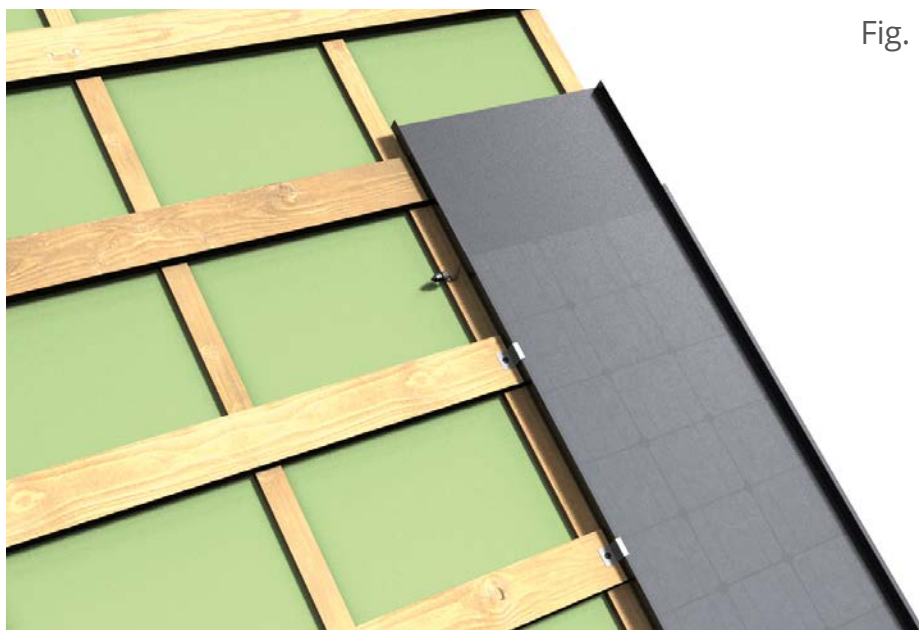

Fig. 8
3.6 After placing the bottom part on the rain gutter, **higher lock (right side) of the first column will be fastened by using fastening clamps to the battens.** The clamps will be laid in approximately every 400 mm (Fig. 8).
3.7 Left side of the first column and upcoming Roofit.solar or regular metal panels must also be fastened to the battens **by fastening clamps that lay every 400 mm** after ensuring the junction box cable must be accessible later (Fig. 8).